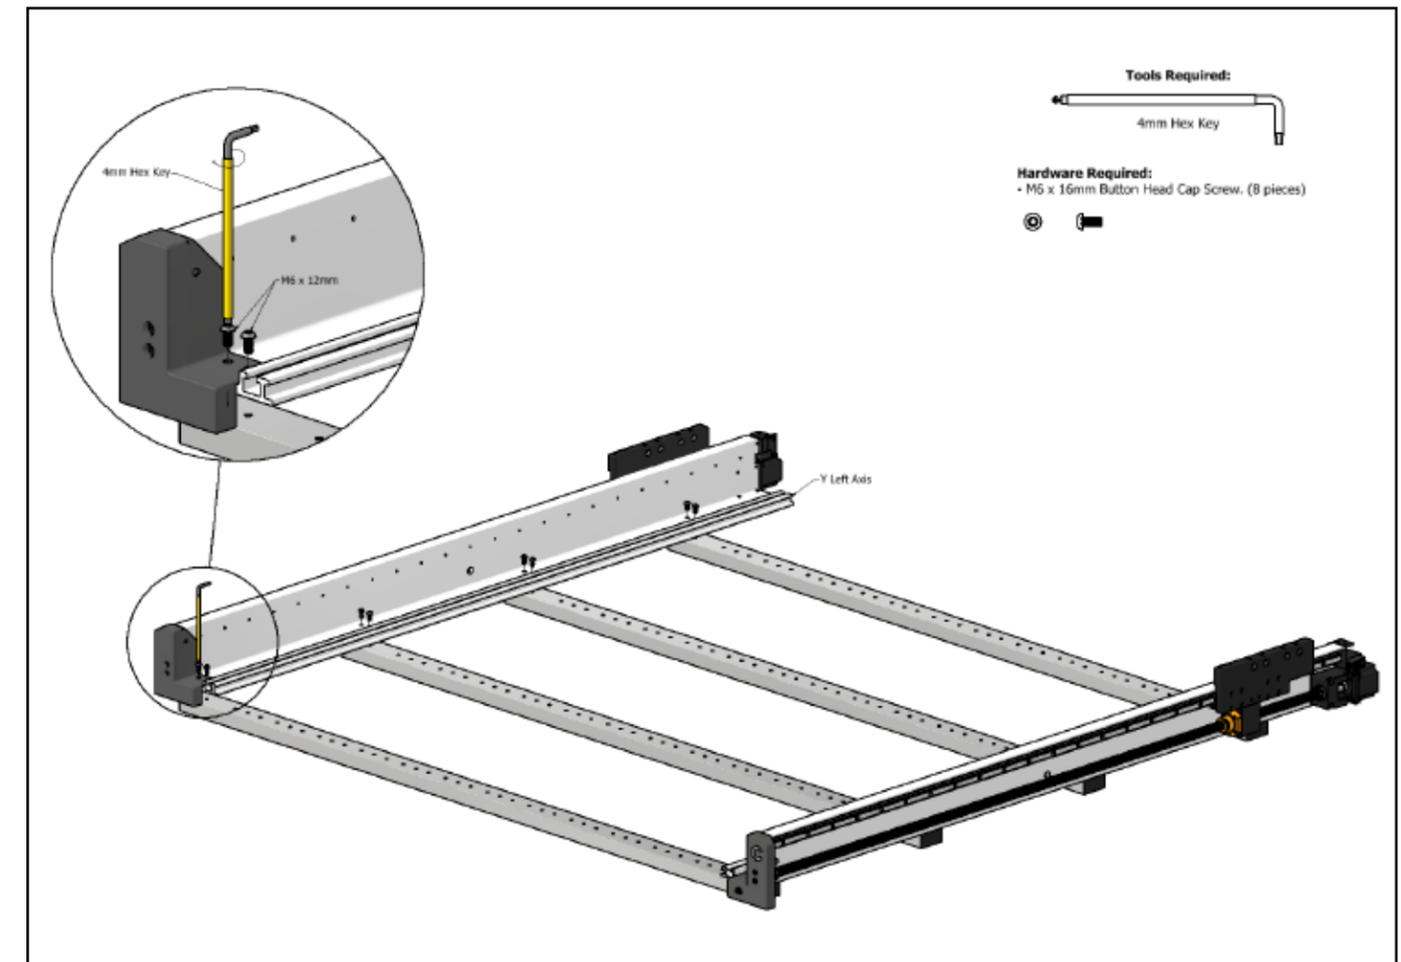

Figure 1-3
2. Set the Y-Left assembly on the left side of the baseframe. See Fig. 1-3.
3. Use a 4mm hex key and eight (8) M6×16mm BHCS to attach the assembly. See Fig. 1-3. Snug the screws but don't fully tighten.